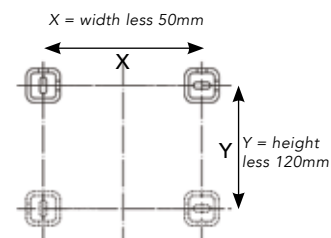

**Fig 2**
1. Mark bracket positions as per *Fig. 2*, measure the width (X) of the radiator less 50mm and the height (Y) of the radiator less 120mm to find your four fixing positions for the Wall sleeves.